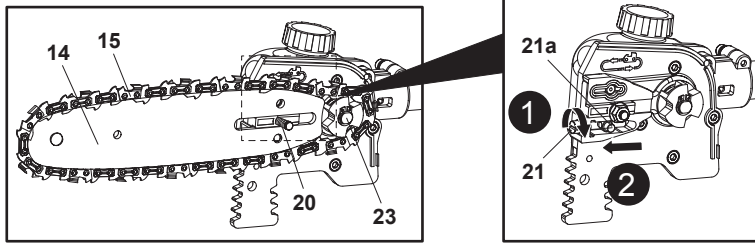

Fig. 12
8. Screw the tension screw (21) clockwise to adjust the tension pin (21a) / guide bar (14) towards the left to tighten the saw chain (15) with the flat end of the supplied double head screwdriver (45) (Fig. 12).